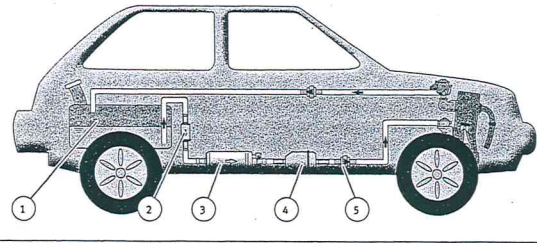

Abb. 1/ Fig. 1/ Puc. 1/图1
- The E1F (3) is inserted in the fuel line.
- The maximum suction lift when lines are full is 500 mm. It must therefore be installed low down ("wet", under the fluid level) and in the vicinity of the tank (1) (see Fig. 1).
- The fuel filter (4) (fine filter, paper filter) must always be situated on the discharge side, i.e. in the direction of the flow behind the fuel pump.
- A wide-meshed sediment separator (2) (mesh size 60...100 µm) can be positioned before the fuel pump (e.g. part no. 4.00030.80.0).
- Replace the sediment separator (2) at the same maintenance interval as the fuel filter (4).
- A non-return valve (5) and (6) (see PIERBURG catalogue) should be installed in the flow and return lines to prevent the fuel lines from running empty.